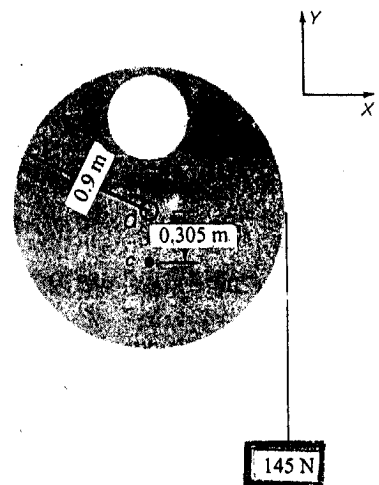

Figure Q7
- Q7. At a certain instant, an unbalanced drum (Figure Q7) is rotating at an angular velocity of 2 rad/sec clockwise. The drum, which has a mass of 30 kg, has an inextensible rope wrapped around its circumference, supporting a 145 N weight. Point c is the center of mass of the drum. The radius of gyration of the drum about an axis perpendicular to O is 0.61 m. Find the reactions at the support O . **[19 marks]**